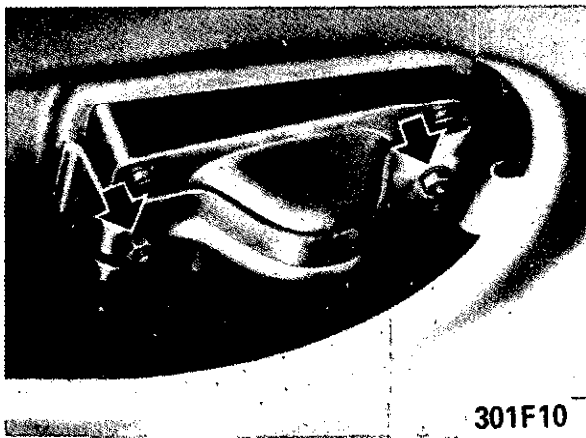

Figure 1 F-10 . Removing Rear Side Marker Lamp
1. Pry courtesy light out of roof frame, as shown in Figure 1 F- 11.